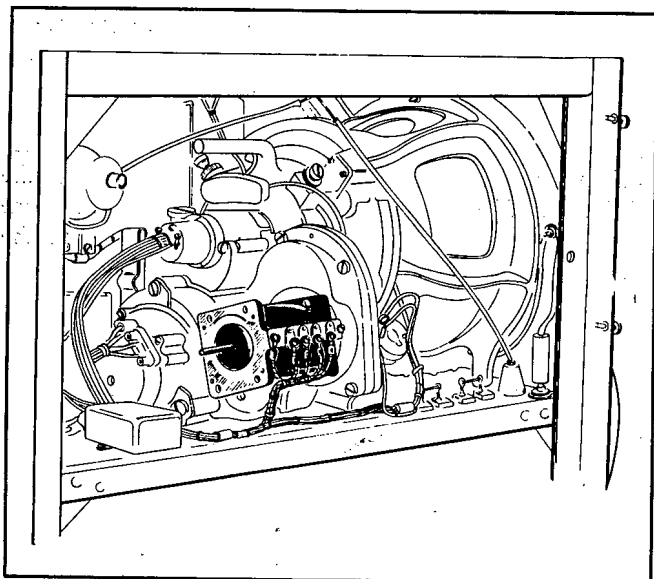

Figure 3-49. PPI Drive Motor
(17) Connect a test oscilloscope between plate 2 of V-514A and ground.
(18) Remove fuse F-501A from its holder. This fuse is the second 3 amp fuse from the left on the front panel. Removing this fuse breaks the O.S.C. circuit to the PPI drive motor.
(19) Place the ON-OFF switch on the PPI Indicator in its ON position.
(20) Rotate the shaft of the PPI drive motor manually approximately 45 degrees from the zero output position as shown on the scope. The drive motor is shown in Fig. 3-49.